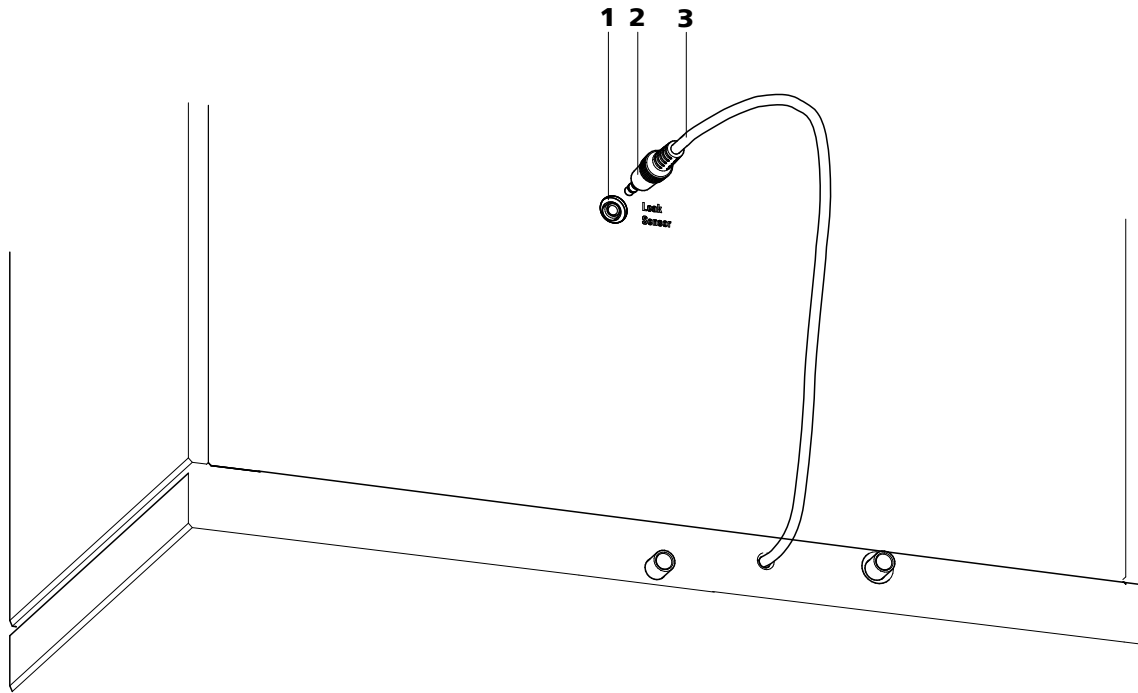

Figure 7 Connection of the leak sensor on the rear of the instrument
- 1 Plug the leak sensor connector plug (7-2) into the leak sensor connection socket (7-1) on the rear of the instrument (see figure 7, page 22).